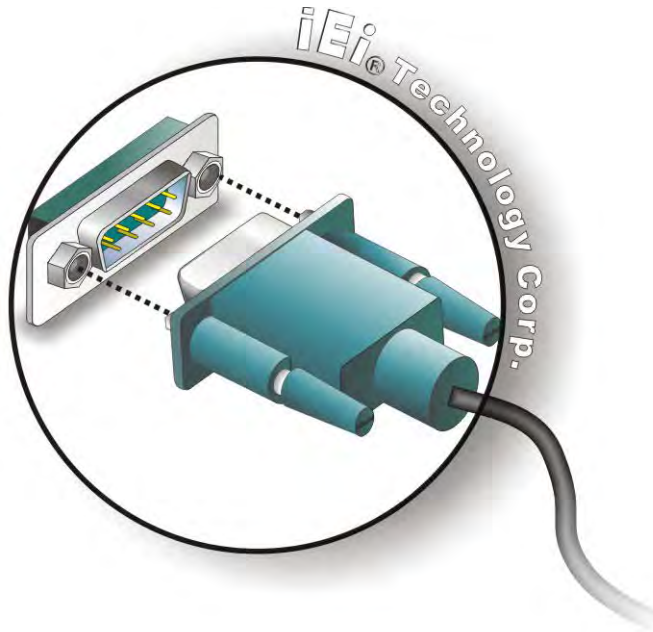

Figure 3-11: DB-9 Serial Port Connector
Step 2: **Insert the serial connector.** Insert the DB-9 connector of a serial device into the DB-9 connector on the uIBX-230-BT. See Figure 3-11.